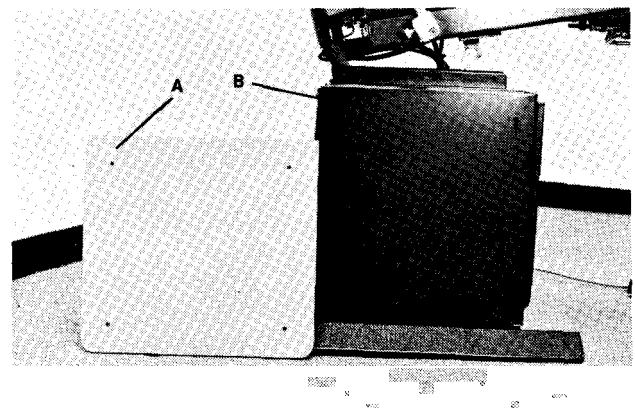

Fig. 10
- 2) To remove formica panels simply grasp panel by edges and slide panel upwards approximately 1/2 inch. Each panel has 4 screws on the back side that fit into keyhole slots in adjoining painted metal panel. See Item A and B, Fig. 10.
- 3) To replace formica panel, simply align screw heads on back side of formica panel with key-hole slots in painted metal panel and slide panel downwards approximately 1/2 inch to secure in place. See Item A and B, Fig. 10.